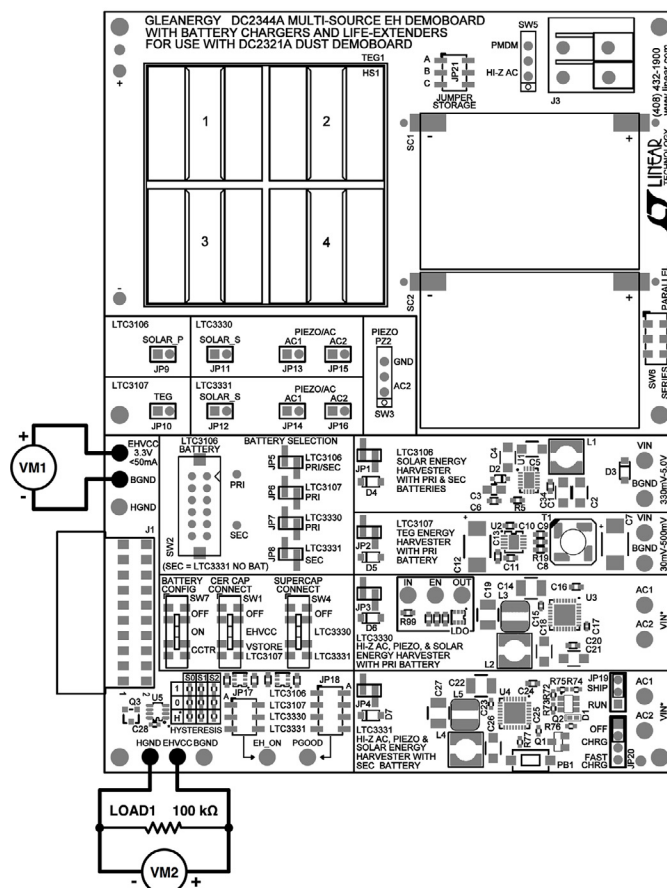

Figure 5. Setup for General DC2344A Test Procedure
3. This configuration ensures that solar power is routed to the LTC3330 and that the output of the LTC3330 is routed to EHVCC. Connect VM1 as shown in Figure 5 and observe that the voltage is rising to, or regulated at, 3.3V.
5. Connect VM2 and LOAD1 as shown in Figure 5. Cover the solar cells again and observe the voltage on VM2 quickly fall to 0V once VM1 drops past 2.25V. Remove your hand and observe the voltage on VM2 quickly rise to the voltage on VM1 as VM1 rises past 2.85V.
1. Reconfigure the board according to Figure 5.